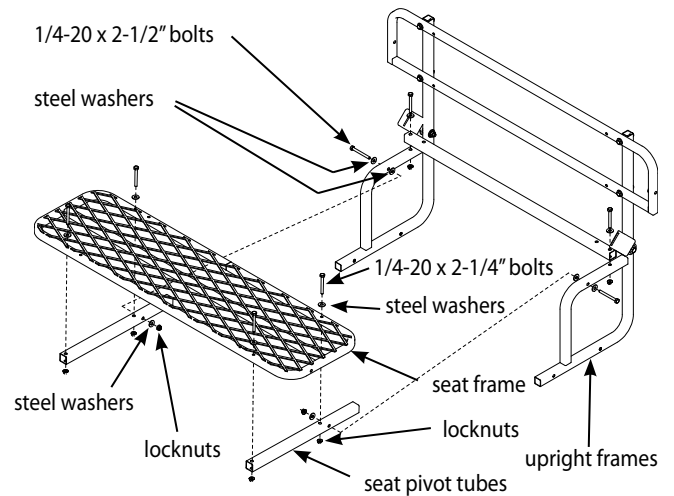

Figure 2B
5. Attach the two seat pivot tubes (A683) to the "inside" of the upright frames using (2) provided 1/4-20 x 2-1/2" hex head bolts, locknuts and (6) 1/4" steel washers. **SEE FIGURE 2B.**
6. Attach the seat frame (A678), mesh side up, to the top of previously mounted seat pivots using (4) provided 1/4-20 x 2-1/4" hex head bolts, locknuts and 1/4" steel washers. **SEE FIGURE 2B.**